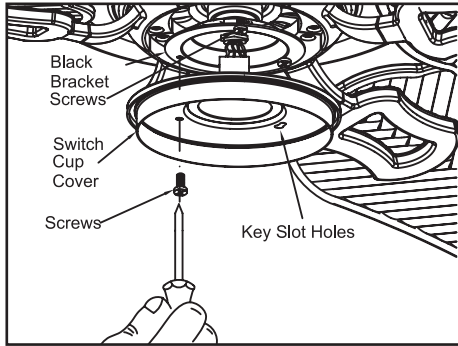

Figure 16
1. Remove one of three mounting screws on the black bracket below the fan motor assembly, loosen but do not remove the other two mounting screws (Figure 16).
3. Re-install the mounting screw that was removed in step 1 and tighten firmly (Figure 16).